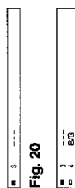

Fig. 20
- Press $\Delta+$ or $\nabla-$ until »---« appears in the SYSTEM position. (See Fig. 20)